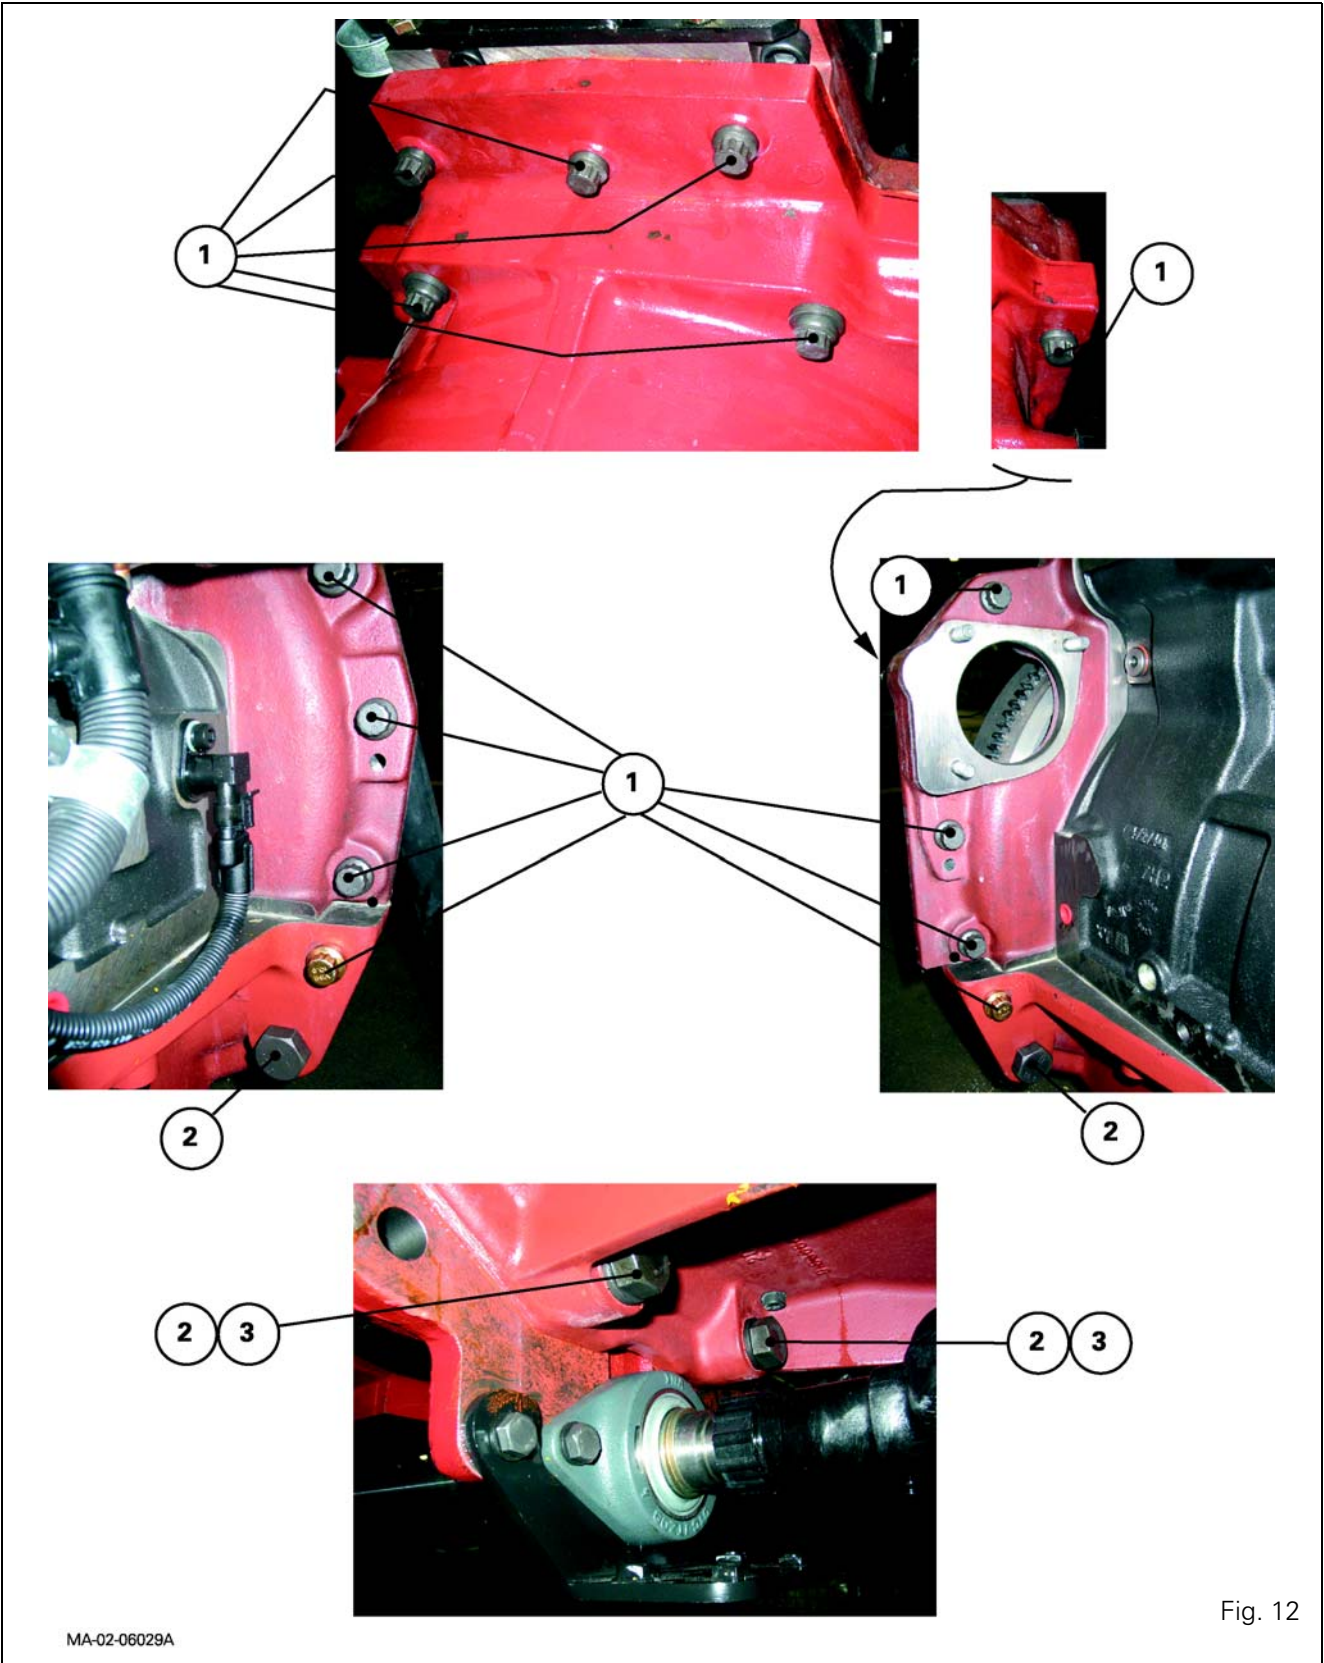

Fig. 12
31. When the elements are assembled, remove the guide studs. Lightly grease the thread of the screws with Loctite 270 or equivalent and refit according to the marks made at disassembly. Carry out tightening torques (Fig. 12).
- Screw (1): 240 - 320 Nm
- Screw (2): 630 - 840 Nm
- Nuts (3): 630 - 840 Nm